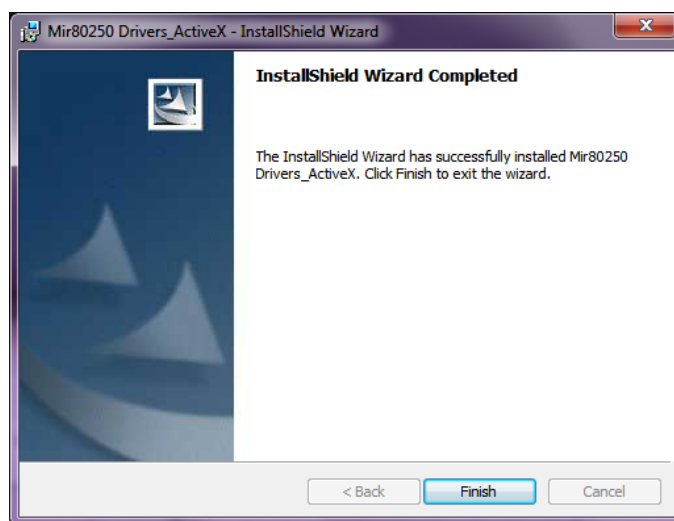

Figure 16: Active X Installation Complete
8. When the installation is complete, the screen shown in Figure 16 will appear. Click “Finish”.
21. When the installation is complete, the screen shown in Figure 16 will appear. Click “Finish”.